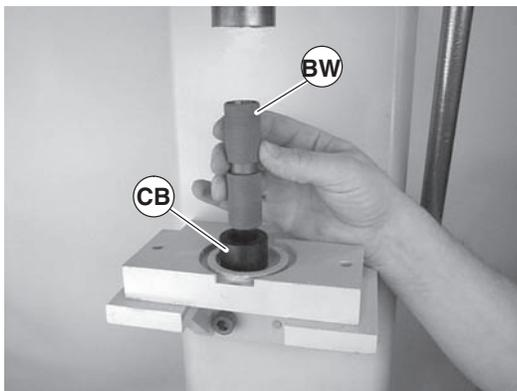

Figure 62
1. Orient bearing anvil/sleeve removal tool (Figure 62, item CB)(25-09) with cavity facing up and place pulley (BW) onto tool.